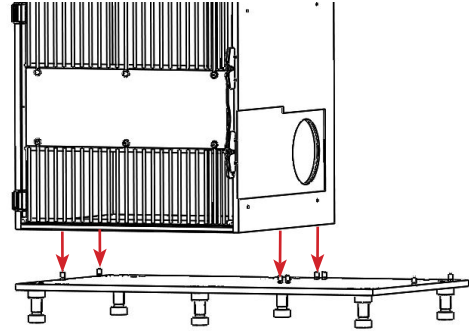

FIGURE 2.20 - First Row Living Unit
STEP 3: Carefully lift and align the first component with the guide pins along the edge of the platform base. The living unit is set first for these instructions, component placement may vary per order. See FIGURE 2.20